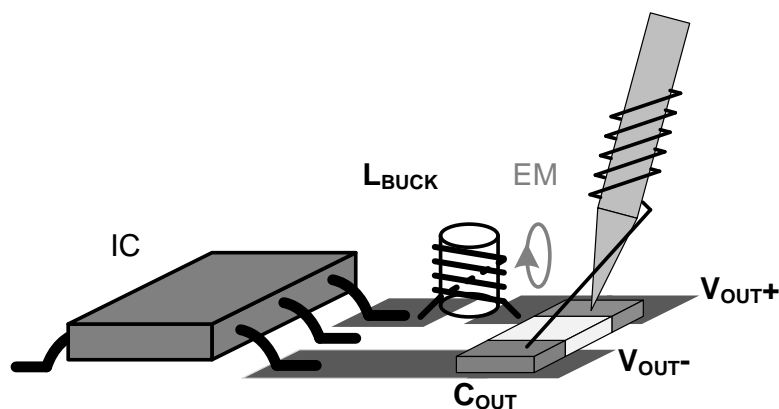

Figure.6 Recommended way to measure the output voltage ripple
A proper output ripple measurement should be done according to Figure 6 setup. Output voltage ripple should be measured across the output ceramic cap near the IC.
1. Remove the ground clip and head of the probe. Wind thin wires around the ground ring of the probe. Solder the end of the ground ring wire to the negative node of the COUT. Touch the probe tip to the positive node of the COUT. Refer to Figure.6.
3. Change the probing direction to decouple the electromagnetic noise generated from the nearby buck inductor (Refer to Figure.6).